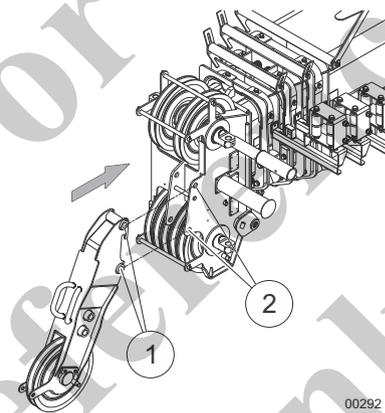

Fig. 174 Lifting the auxiliary jib to the telescopic boom
6	Bring the auxiliary jib (1) in Fig. 174 to the boom pulley head (2) in Fig. 174 and attach it.